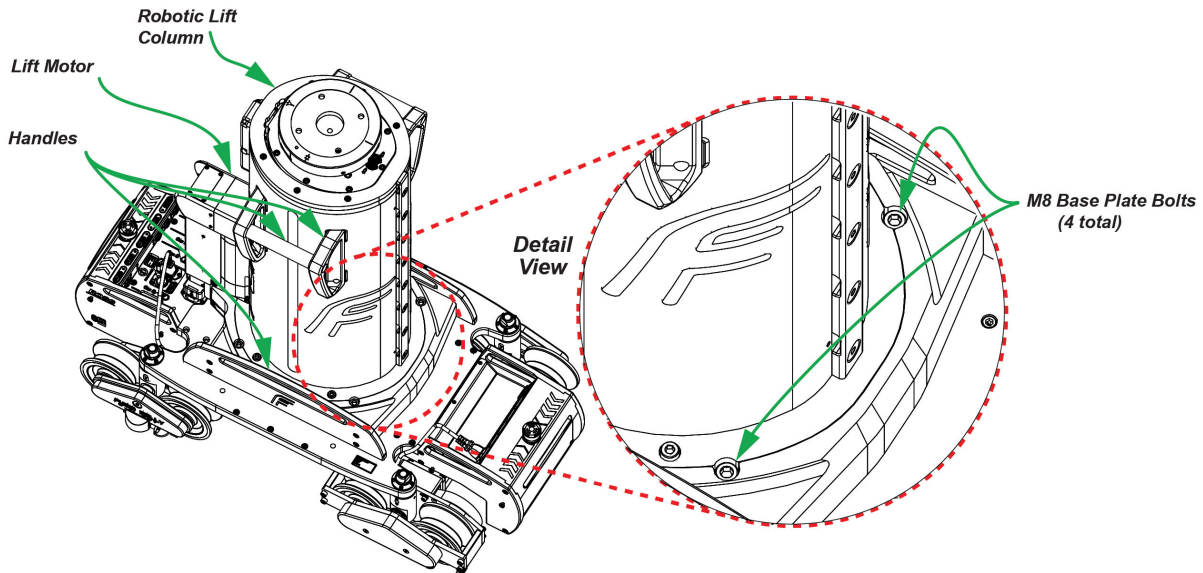

Figure 2 - M10 Base Plate Bolts Connecting the Lift to the Dolly
1. **For a Robotic Lift Column:** Using the 8 mm hexagonal wrench, remove the four M10 base plate bolts that fasten the lift to the dolly base, as shown in **Figure 2**.